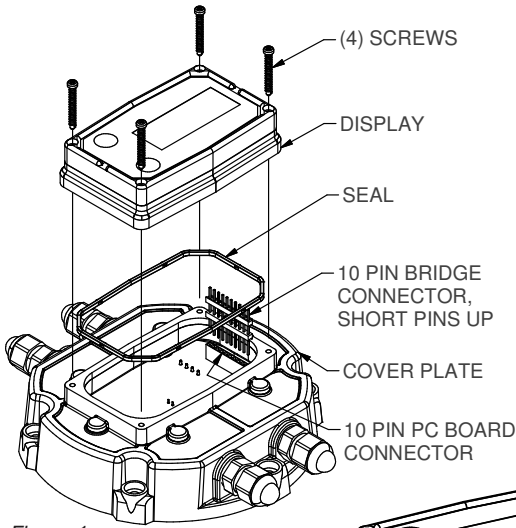

Figure 1
- Make sure the seal is seated in its groove on the bottom of the display (see Figure 1).